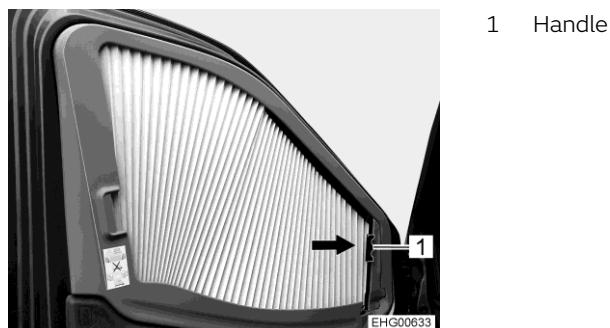

Fig. 18 Side window with folding blind
- Pull the folding slider blind by the handle (Fig. 18,1) in the direction of the arrow (as far as it will go). A magnetic catch keeps the folding blind closed.
- Push back the folding blind by the handle (Fig. 18,1) until the holding bar engages completely in its holder.